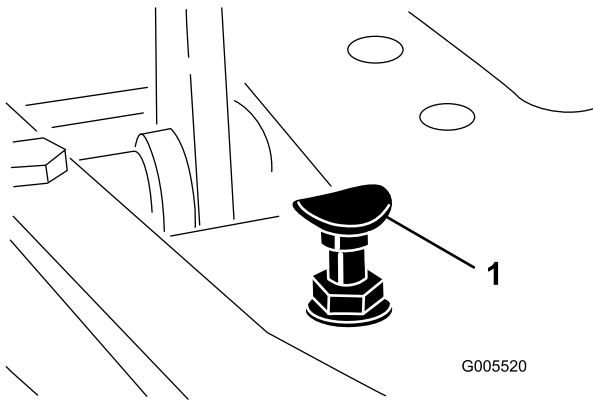

Figure 40
To obtain the maximum-transport speed, put the functional control lever in the TRANSPORT position and press down on the traction pedal. If the pedal contacts the stop (Figure 40) before you feel tension on the cable, perform the following adjustment procedure:
1. Put the functional-control lever in the TRANSPORT position and loosen the locknut securing the pedal stop to the floor plate (Figure 40).